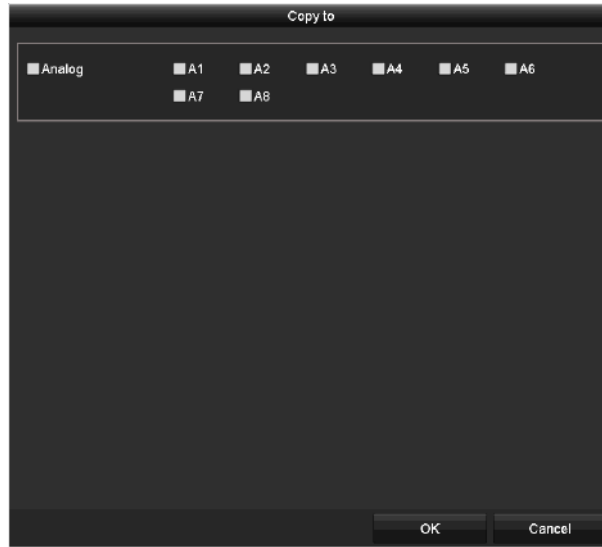

Figure 15-2 Copy Settings to Other Cameras
- 1) If you want to copy the OSD settings of the current camera to other cameras, click **Copy** to enter the **Copy Camera** interface, as shown in Figure 15-2.